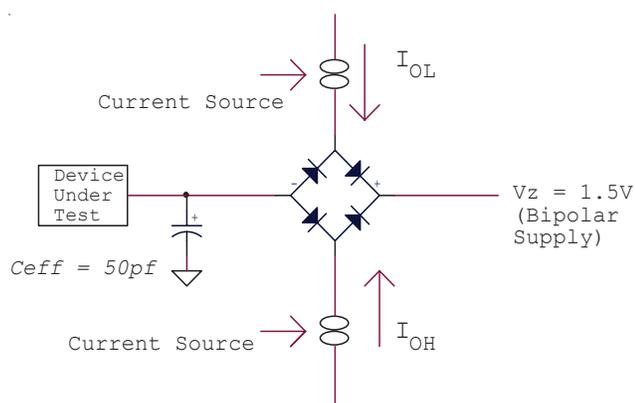

Figure 1
Output load.....See Figures 1
- Test conditions as specified with output loading as shown in Fig. 1 unless otherwise noted.